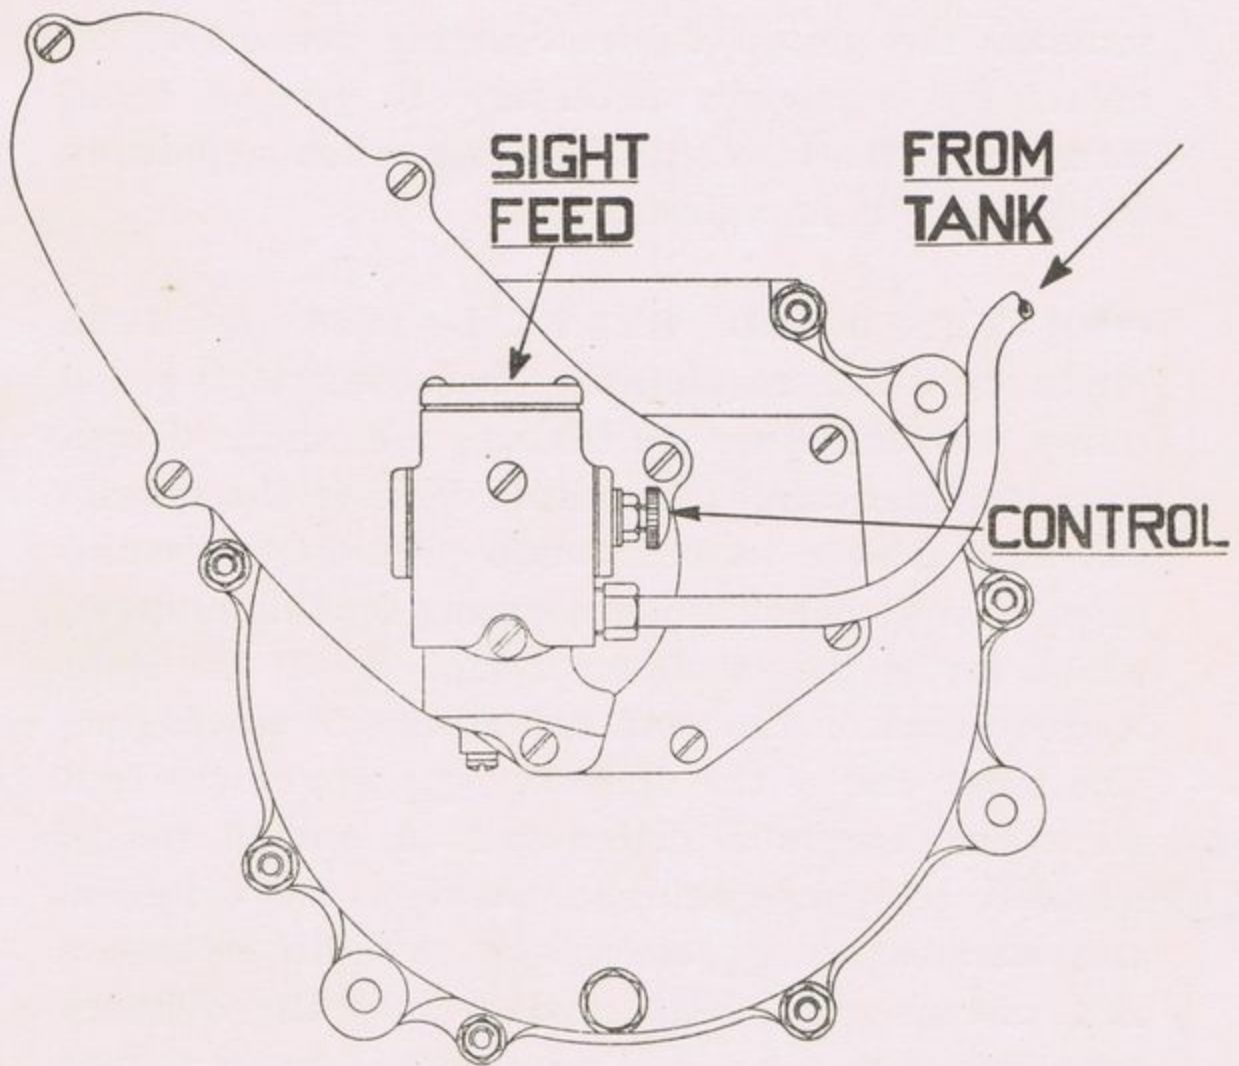

Fig. 3.
**GRAVITY FEED SYSTEM—1933 to 1936 (except twin cylinder models)—**(Fig. 3). Oil is drawn from a compartment in the petrol tank and delivered to the engine by a "Pilgrim" oil pump (see note on pilgrim oil pump, page 14), mounted